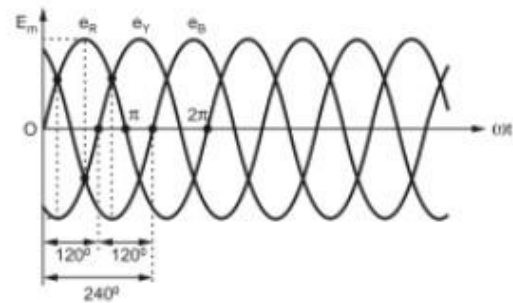

Fig. 1.3.2 Waveforms of 3 phase voltages
- Suppose  $e_R$  is assumed to be the reference and is zero for the instant shown in the Fig. 1.3.2. At the same instant  $e_Y$  will be displaced by  $120^\circ$  from  $e_R$  and will follow  $e_R$  while  $e_B$  will be displaced by  $120^\circ$  from  $e_Y$  and will follow  $e_Y$  i.e. if  $e_R$  is reference then  $e_Y$  will attain its maximum and minimum position  $120^\circ$  later than  $e_R$  and  $e_B$  will attain its maximum and minimum position  $120^\circ$  later than  $e_Y$  i.e.  $120^\circ + 120^\circ = 240^\circ$  later with respect to  $e_R$ . All coils together represent three phase supply system. The waveforms are shown in the Fig. 1.3.2.